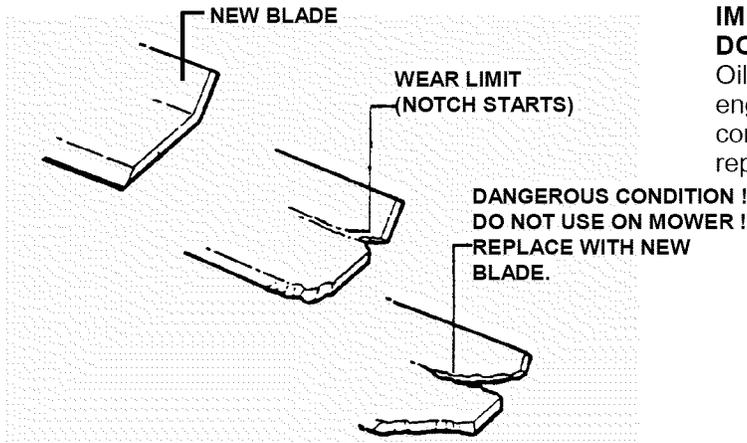

FIGURE 4.1
1. Inspect blade frequently for signs of excessive wear or damage. See Figure 4.1.
2. Replace the blade if it is badly chipped, bent, noticeably out of balance or has cracks or notch in either tip. See Figure 4.1 & 4.1A. Replace with new blade.
- Reinstall blade. See Figure 4.1. Check torque of blade retaining cap screw. Recommended torque should be 40 ft. lbs.